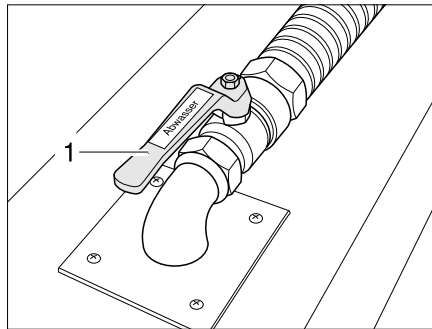

Fig. 352 Waste water tap
The waste water tap (Fig. 352,1) is fixed in the double floor. The waste water tap is black and is labelled with the word "Abwasser" (waste water).
- Open the waste water tap (Fig. 352,2). The waste water will run out.